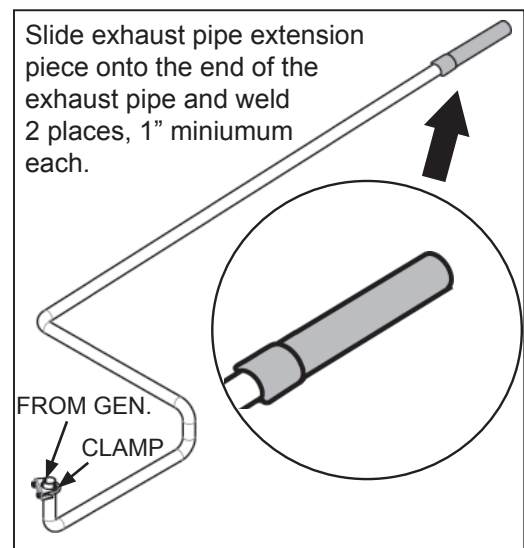

Figure 4
8. Locate the generator exhaust pipe extension piece, included with the recall kit. Slide the flared end of the extension piece over the end of the exhaust pipe until it overlaps a minimum of 1 1/2". Weld in two places, 1" minimum each place. Refer to Figure 4. **Extensions must be welded and NOT clamped.**